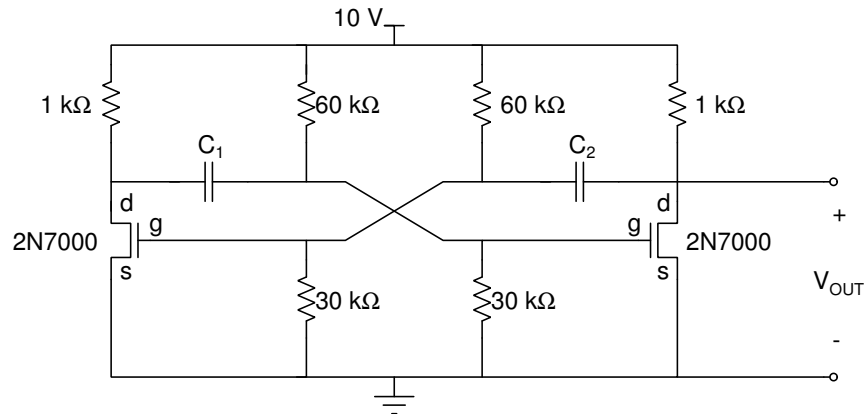

Figure 4: Astable multivibrator circuit.
6. Modify the oscillator to produce the frequency and the duty cycle needed for the boost converter #2 designed in Lab #8. This is best accomplished by keeping the resistor values constant and adjusting the capacitance values C_1 and C_2 shown in Figure 4. The values of